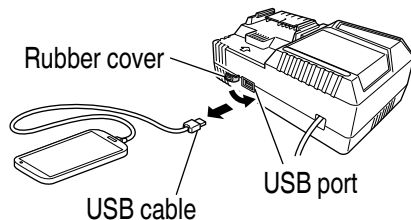

Fig. 26
- (3) When charging is completed
- Unplug the power cord from the electrical outlet. (**Fig. 26**)